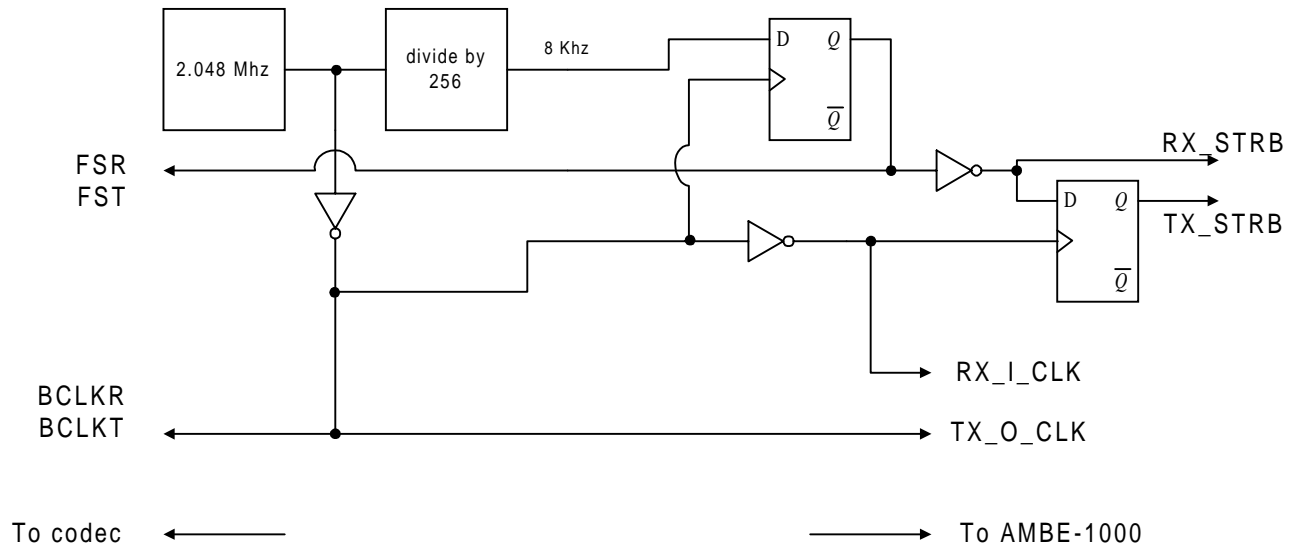

Figure App1.4.2-1 Circuit diagram to connect the AMBE-1000™ to the MC145480
This A/D-D/A can be used in either A-law or μ -Law mode. Figure App1.4.2-1 shows the recommended circuit that should be used to generate the clock and strobe signal to the AMBE-1000™ and the MC145480. In conjunction with this circuit, the AMBE-1000™ must be set to the correct A/D-D/A setting to interface correctly with the MC145480. Table 2.3-1 for the correct pin setting.
For more information about this Motorola A/D-D/A chip, see reference (3). If there are any questions about the drawing shown in figure App1.4.2-1, please contact DVSI.